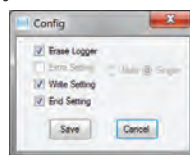

FIGURE 15
- 2.8.3. Click Config Initialization, and a new window pops up, see Fig. 15